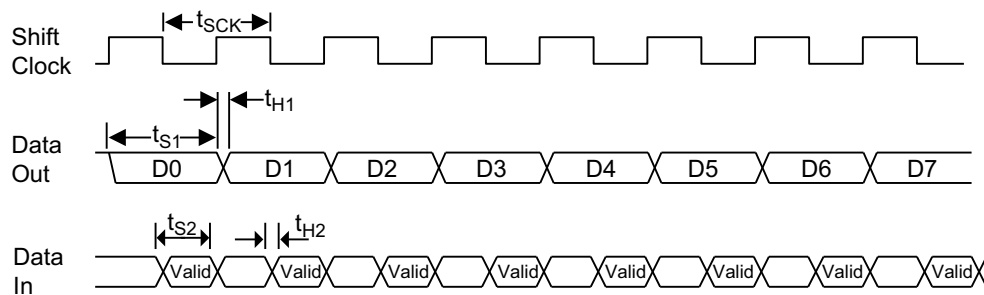

Figure 127. Timing Waveform for the UART Module
► **Notes:** The symbols shown in Figure 127 are defined as: